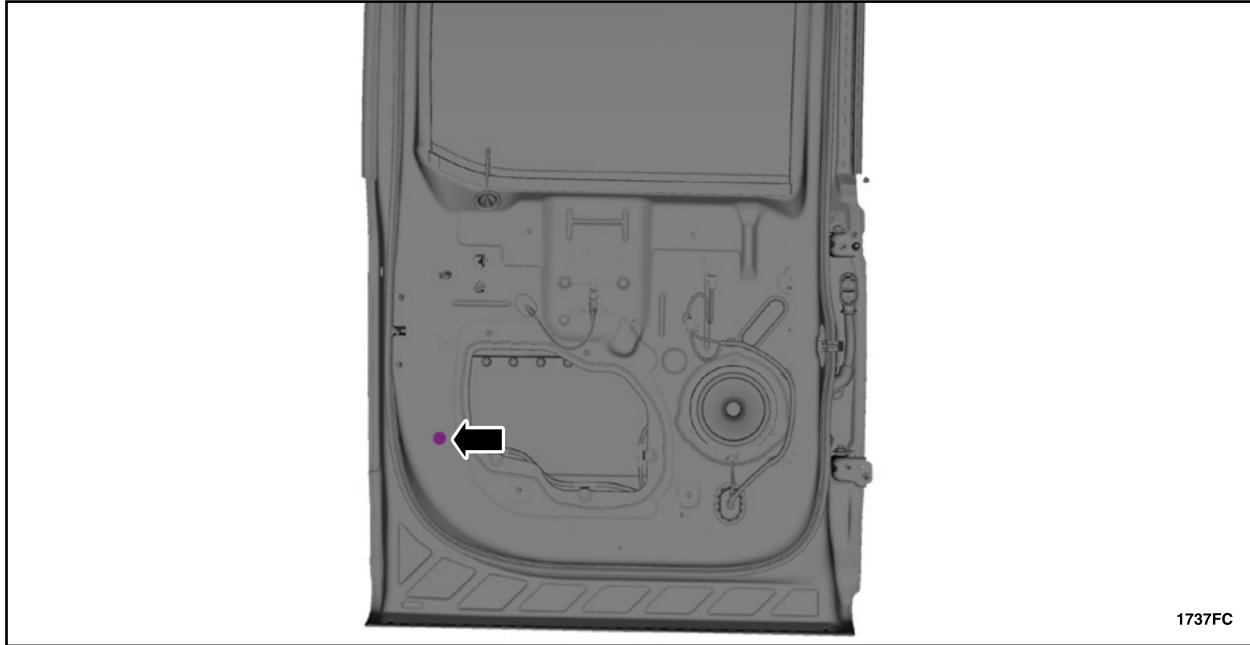

FIGURE 37
9. Remove the rear door window run retainer. See Figure 37.
23. Install the rear door window run retainer. See Figure 37.